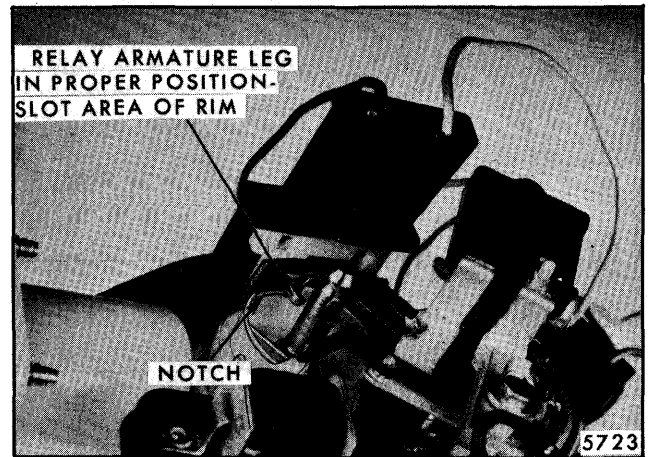

Fig. 2-63-Pump in Idling Position
1. A leg on the relay armature rides up a ramp located on the outer surface of the ratchet gear rim. When the leg reaches the top of the ramp, it moves over the top edge of the ratchet gear rim. This action allows the ratchet gear pawl to re-enter the armature opening, preventing further rotation of the ratchet gear until the next time the relay coil is energized from the washer button (refer to Figure 2-63 for position of armature leg while pump is idling).